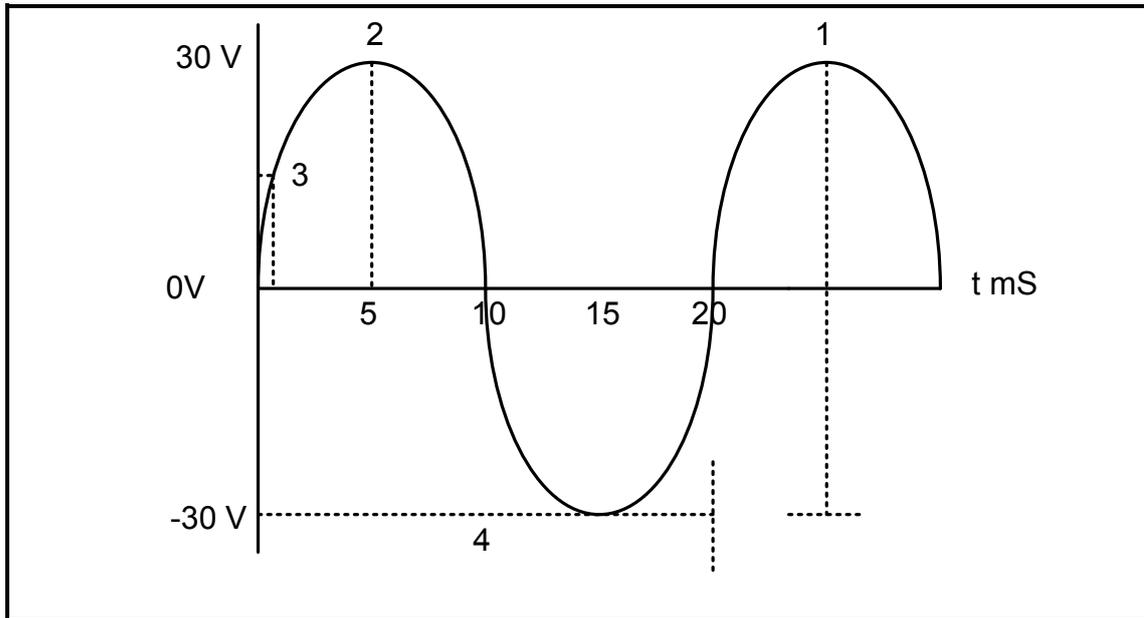

FIGURE 10.5
10.4 Refer to FIGURE 10.5 below and answer the questions that follow.